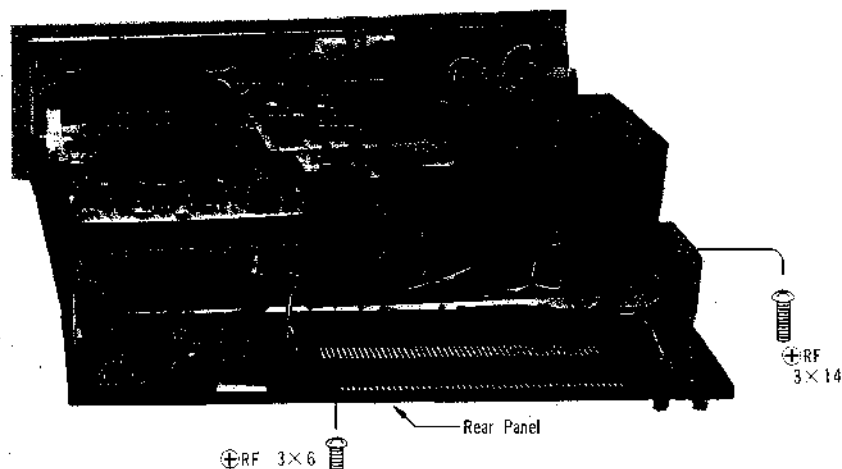

Fig. 2-6-1 Removal of Rear Panel
- Pull the rear panel forward and down. See Fig. 2-6-1.
- Loosen off two machine screws (+RF3 ϕ ×6) that hold the CS₁ mounting base. See Fig. 2-6-1.
- (1) Loosen off two screws (+K3φ×6) at each side of the chassis to tilt the rear panel. See Fig. 2-6-1.
- (2) Loosen off two screws (+RF3φ×4) securing the transistor to the heat sink.
- (3) Install the replacement.
- (4) When replacing a power transistor, apply a coat of heat-transferring silicone grease to both sides of the mica insulation. The grease fills the tiny dents in the mating surfaces, thereby improving heat transfer to the heat sink.
- (5) Any excess grease, that is squeezed out when the mounting bolts are tightened, can be wiped off with a clean cloth, to prevent it from attracting conductive dust particles that would eventually short out the insulation.